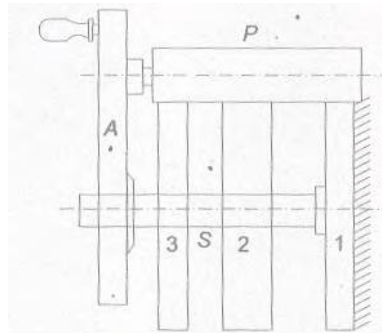

Figure 6
6. The epicyclic gear train known as Ferguson's paradox is shown in figure 6. Gear 1 is fixed to the frame. The arm A and gears 2 and 3 are free to rotate on the shaft S. Gears 1, 2 and 3 have 100, 101, and 99 teeth respectively. The planet gear has 20 teeth. The pitch circle diameter of all the gears is the same so that the planet gear P meshes with all of them. Determine the revolutions of gears 2 and 3 for one revolution of the arm A. [15]